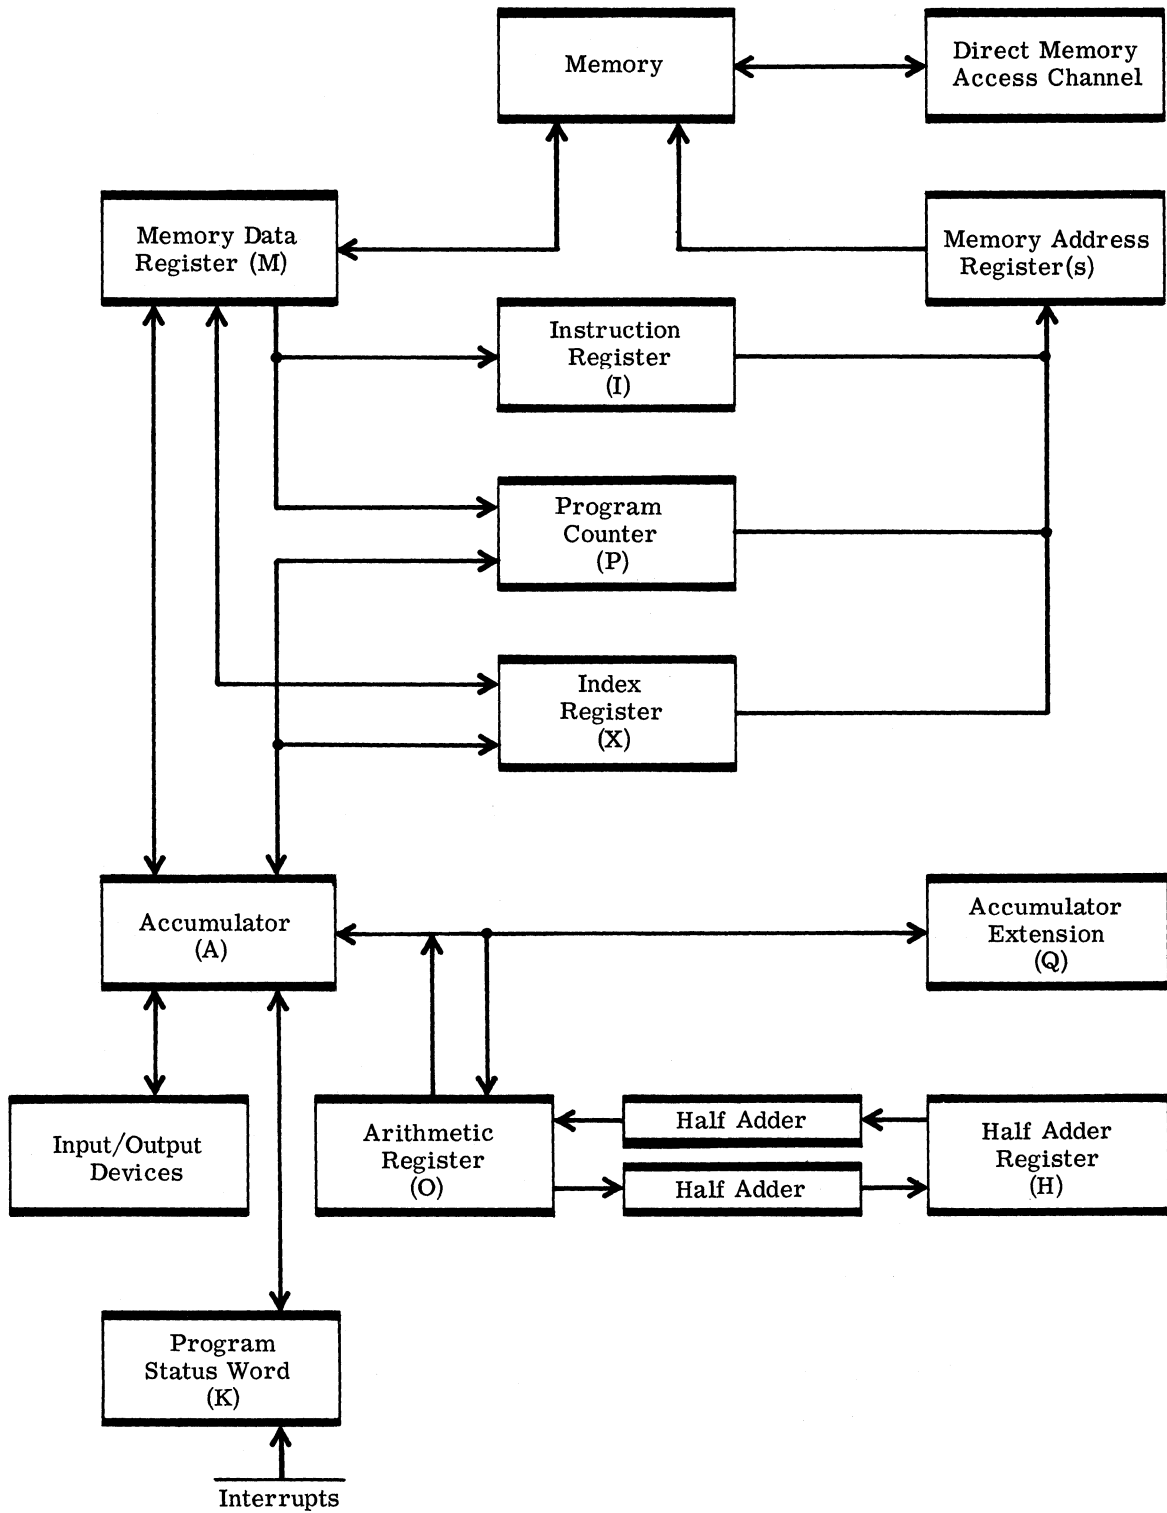

Figure 1. Block Diagram - EAI 640 Computer
The Arithmetic Section of the EAI 640 Computer performs the arithmetic and logical operations necessary for execution of instructions. This section has several operational registers. Figure 1 shows a generalized logic block diagram of the 640 Computer. It should be emphasized that not all registers shown on this diagram are available to the programmer for direct operations. For example, the Half-Add Register (H) is necessary for proper operation of the Arithmetic Section, but cannot be directly manipulated by any instruction in the repertoire of the 640 Computer.